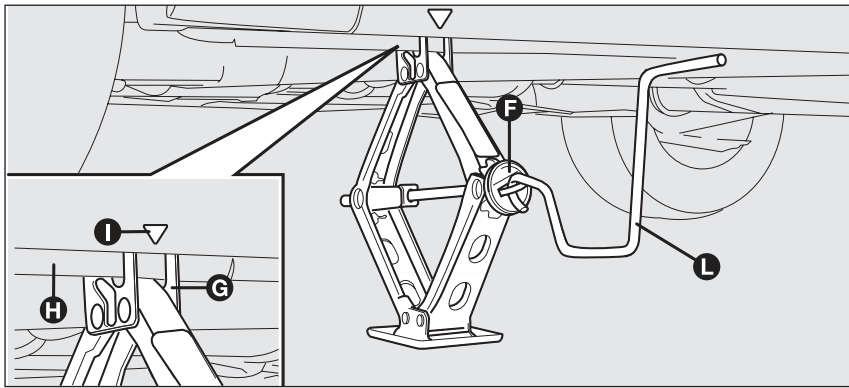

fig. 14
- Fit the handle **L-fig. 14** to operate the jack and lift the car until the wheel to be changed is several centimetres off the ground;
- Turn the jack handle **L-fig. 14** to lower the car and remove the jack;